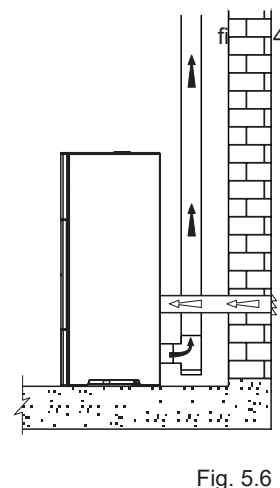

Fig. 5.6
- connect the stove's combustible air inlet to the air intake with a suitable duct (fig. 5.6).